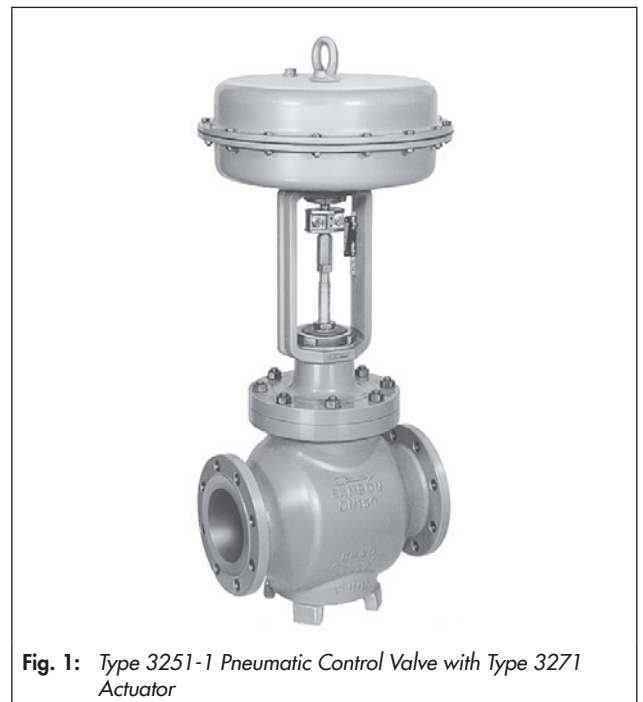

Fig. 1: Type 3251-1 Pneumatic Control Valve with Type 3271 Actuator
- **Type 3251-1** (Fig. 1) · Type 3251 Valve and Type 3271 Actuator with 350 to 2800 cm² actuator area (see Data Sheets ▶ T 8310-1, ▶ T 8310-2 and ▶ T 8310-3)